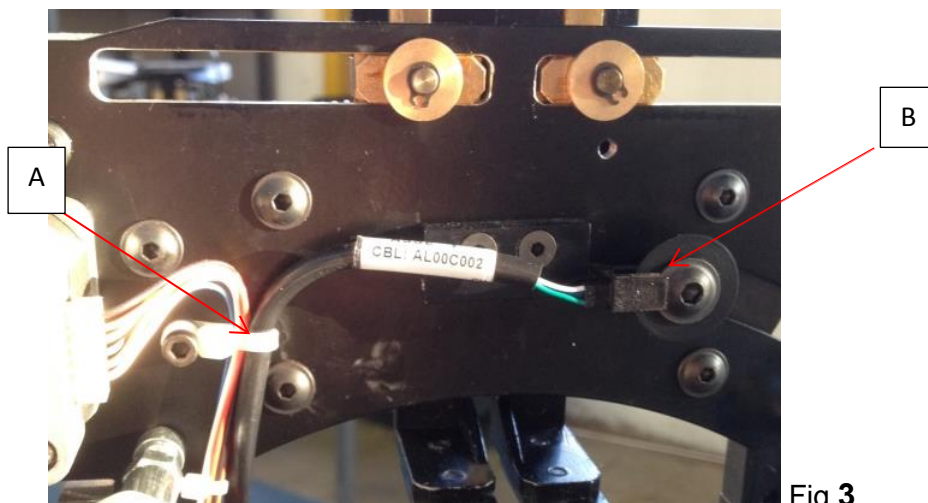

Fig 3
4. Remove screw **A**) indicated by the red arrow in **fig. 3** and cut the plastic cable tie.